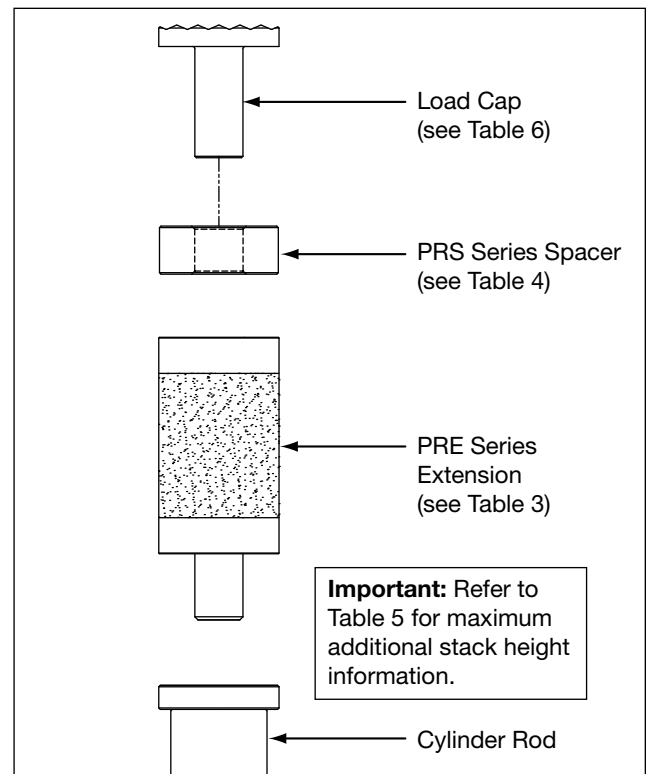

Figure 5, Extension and Spacer Installation (typical)
5.6 Stacking Instructions - Extensions and Spacers (See Figure 5)